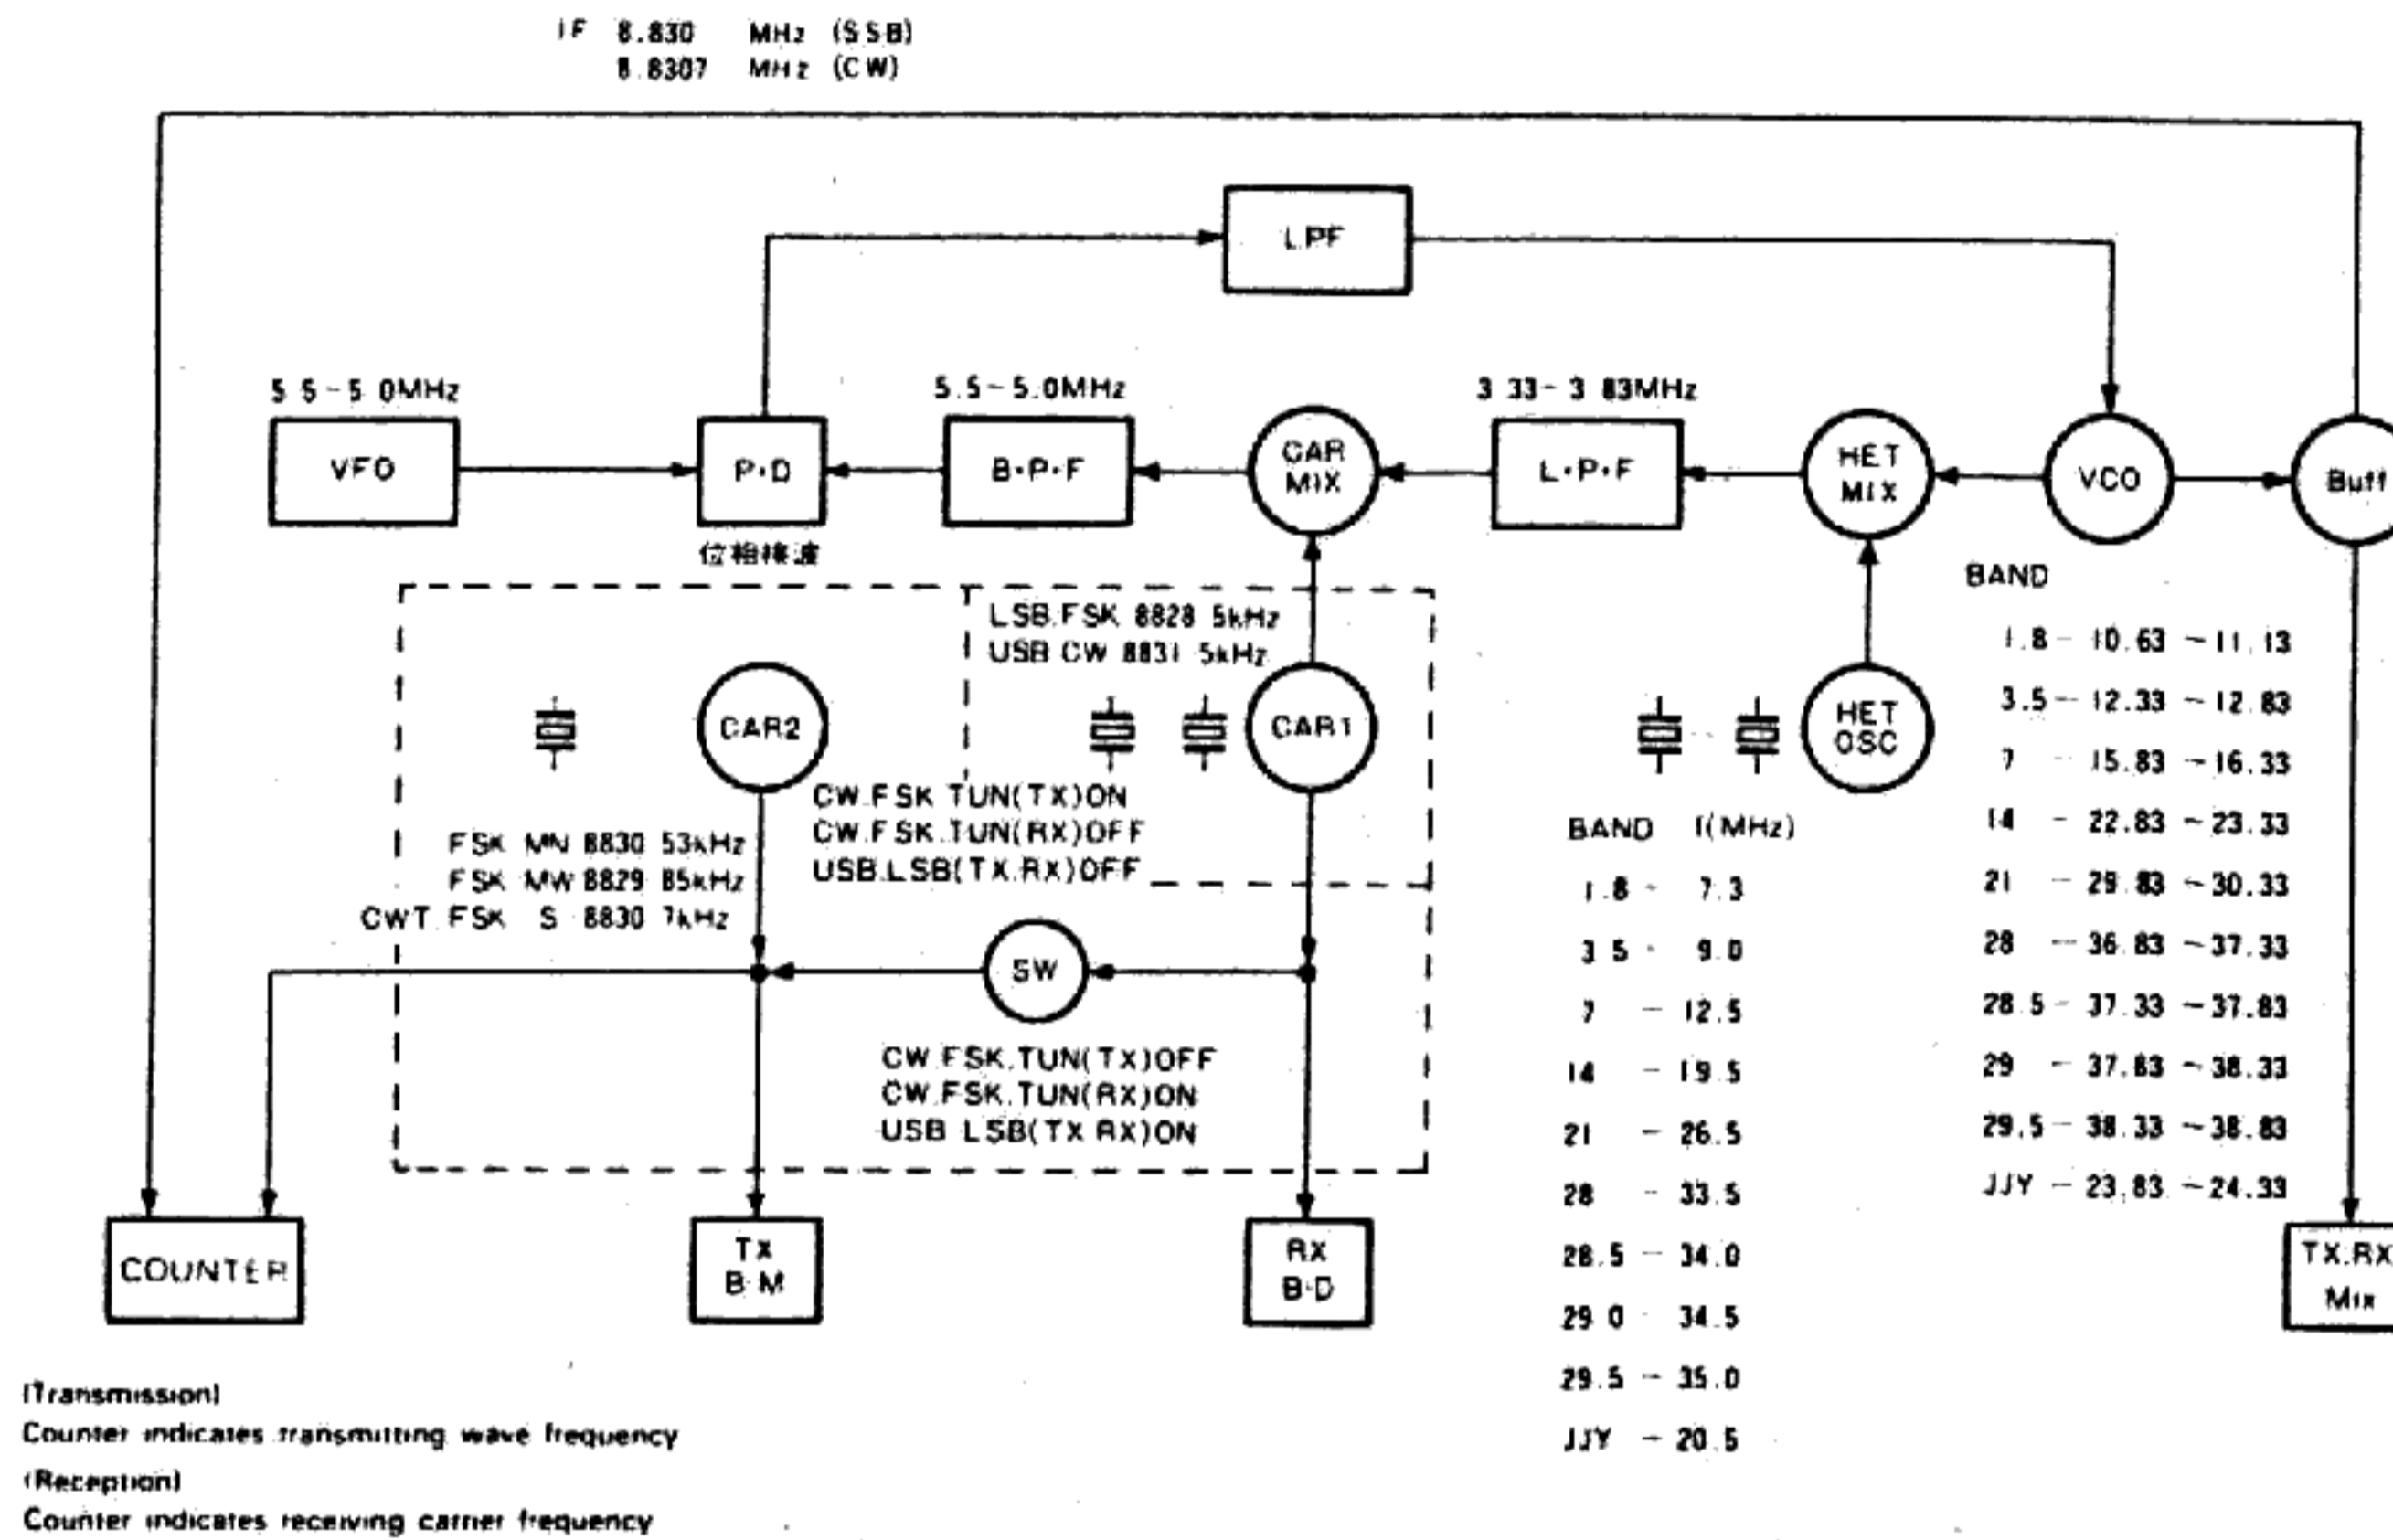

Fig. 6 PLL system
**Fig. 6** shows the circuit configuration of the PLL system developed in TS-820. In this system, VCO signal is mixed with HET signal and thereby converted into a signal of 3.33 to 3.83 MHz common to all bands, which is further mixed with a carrier to be converted into 5.5 to 5.0 MHz. This signal is phase compared with VFO signal of 5.5 to 5.0 MHz. The comparison output thus obtained is returned to VCO to lock it.